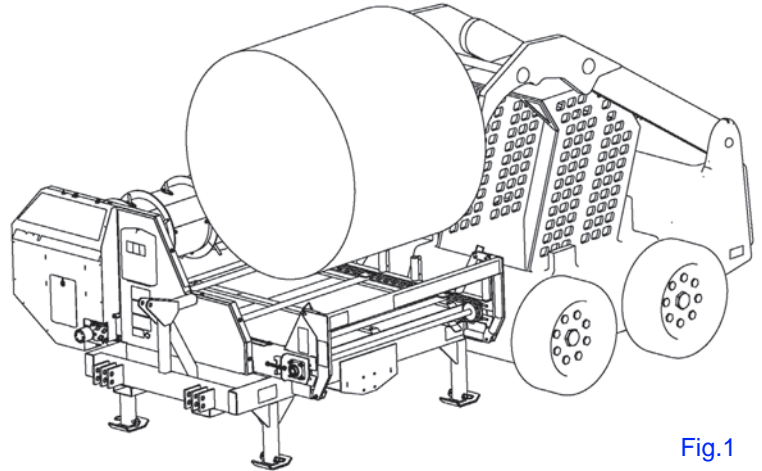

Fig.1
3. With a loader equipped power unit, lift the bale over the rear of balefeeder and lower onto the conveyor bed. See Fig.1.